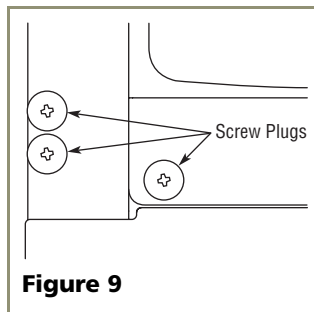

Figure 9
2. Remove plastic screw plugs (3 each, top and bottom) from new hinge location. Do not discard (see **Figure 9**).